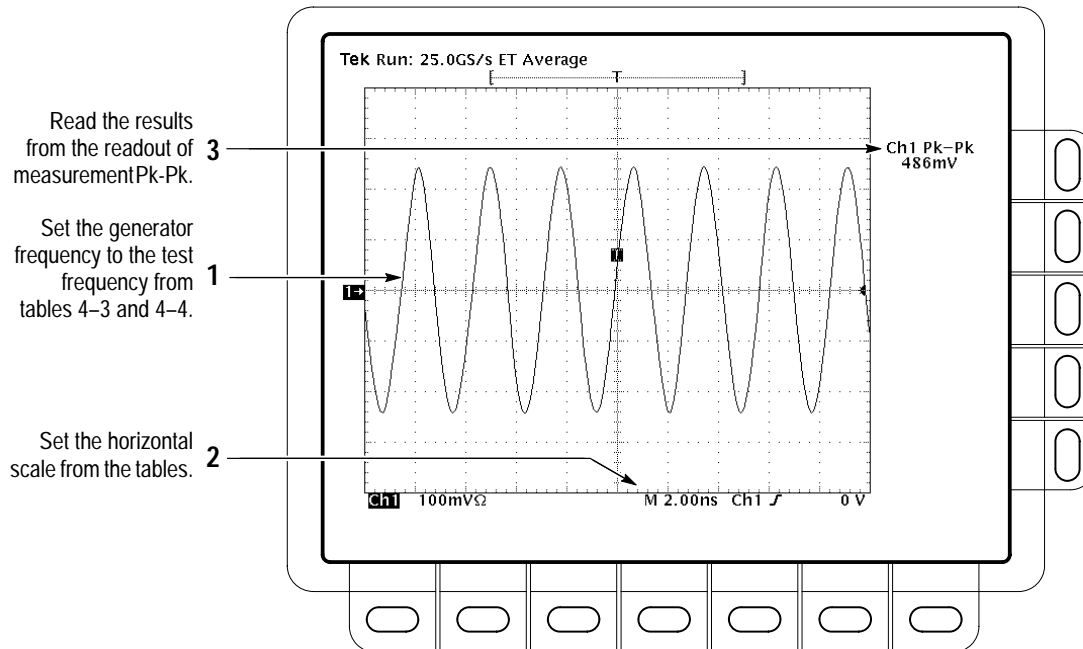

Figure 4–7: Measurement of Analog Bandwidth
- Read the results at the CHx Pk-Pk readout, which automatically measures the amplitude of the test signal. (See Figure 4–7.)